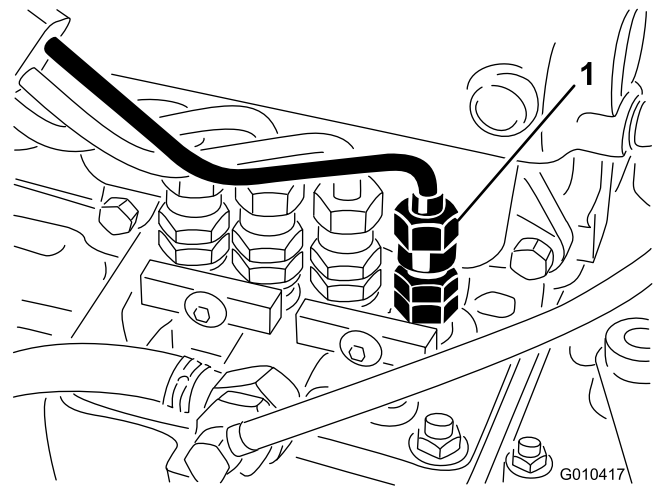

Figure 41
- Loosen the pipe connection to the #1 injector nozzle and holder assembly at the injection pump (Figure 41).